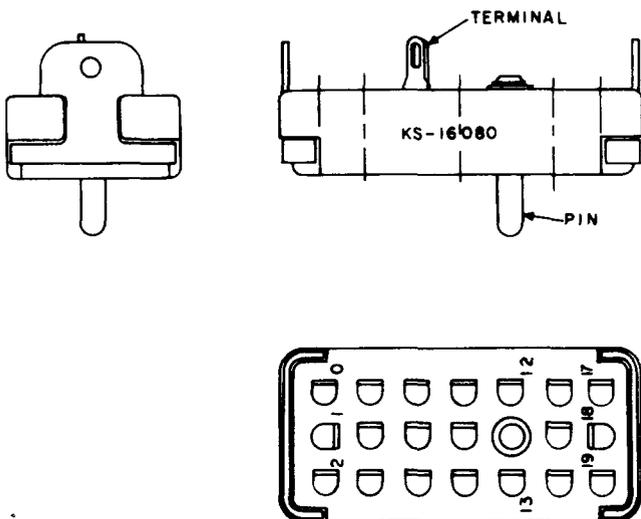

Fig. 1—KS-16080, L1, Jack
2.01 **KS-16080, L1:** The KS-16080 L1, jack (Fig. 1) is equipped with 20 gold-plated, phosphor-bronze, floating terminals. This jack mates with the KS-16081 plug. This jack is used as part of the 124A, B, and C adapters which are used with the 5U Test Set, J98705U, for repairing type O, type N, and associated carrier equipment.